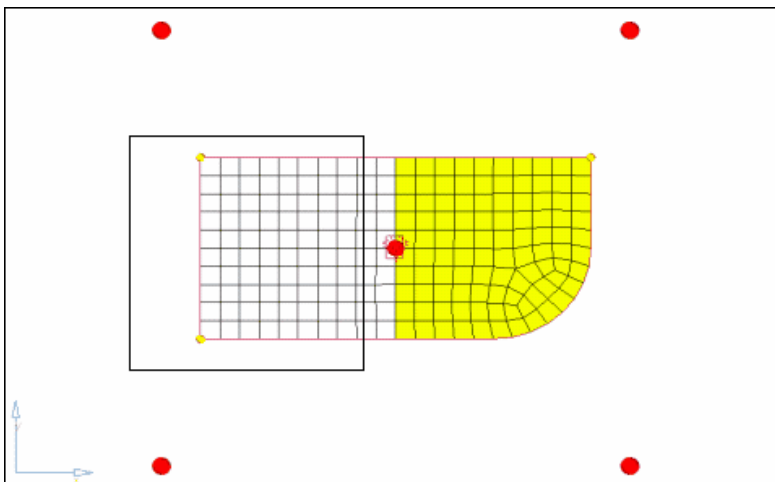

Figure 1: Elements to select to move into a new domain
3. Using **elems >> by window**, select the elements indicated in figure 1.